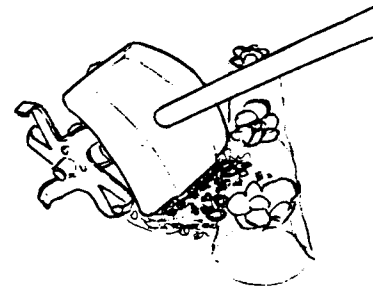

Figure 11
3. Tilt the blades to raise soil as shown in figure 11.